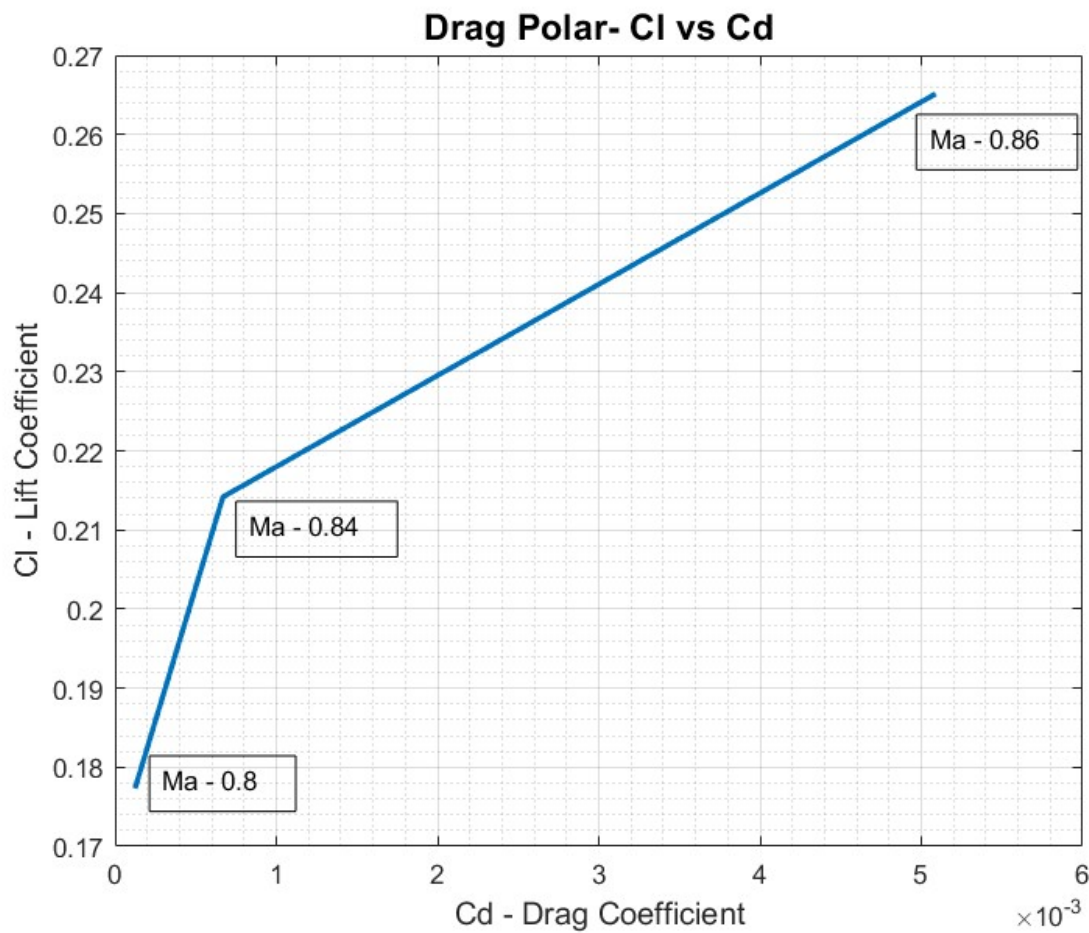

Fig:13 – Drag Polar ( $C_l$  vs  $C_d$ ) plot at varying Mach no
- Fig 13 shows the Drag Polar plot of the circular arc airfoil at varying Ma for the BLC coupled TSD code.